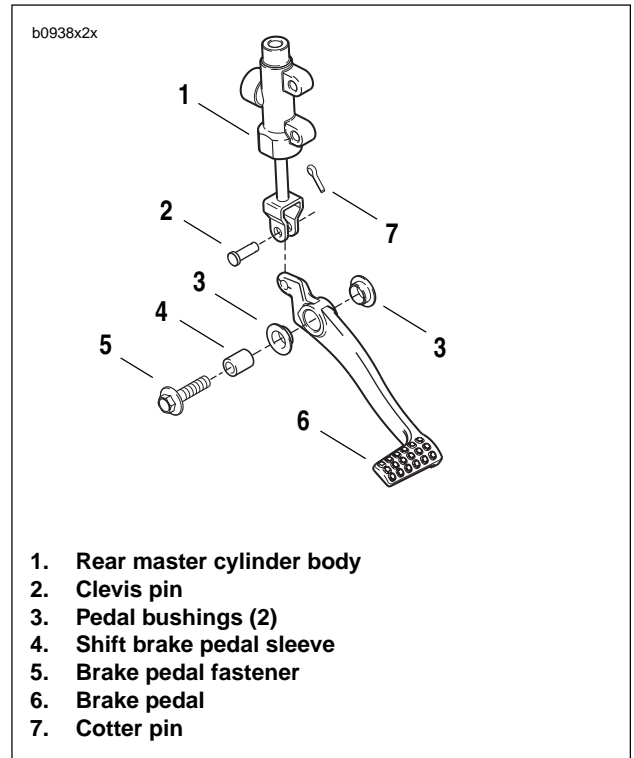

Figure 2-36. Brake Pedal Assembly
1. See Figure 2-36. Remove cotter pin (7) and discard.
2. Remove clevis pin (2).
3. Remove pedal fastener (5).
4. Remove shift brake pedal sleeve (4).
5. Remove pedal bushings (3).
6. Remove brake pedal (6).
1. See Figure 2-36. Install pedal bushings (3).
2. Install shift brake pedal sleeve (4).
3. Install brake pedal (6) using LOCTITE 272 (Red) and tighten fastener (5) to 22-24 ft-lbs (30-33 Nm).
4. Install clevis pin (2).
5. Install **new** cotter pin (7).